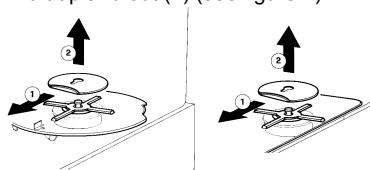

figure 1
- 2 - Uncouple (1) the pump cover retainer and lift it up and out (2) (see figure 1).